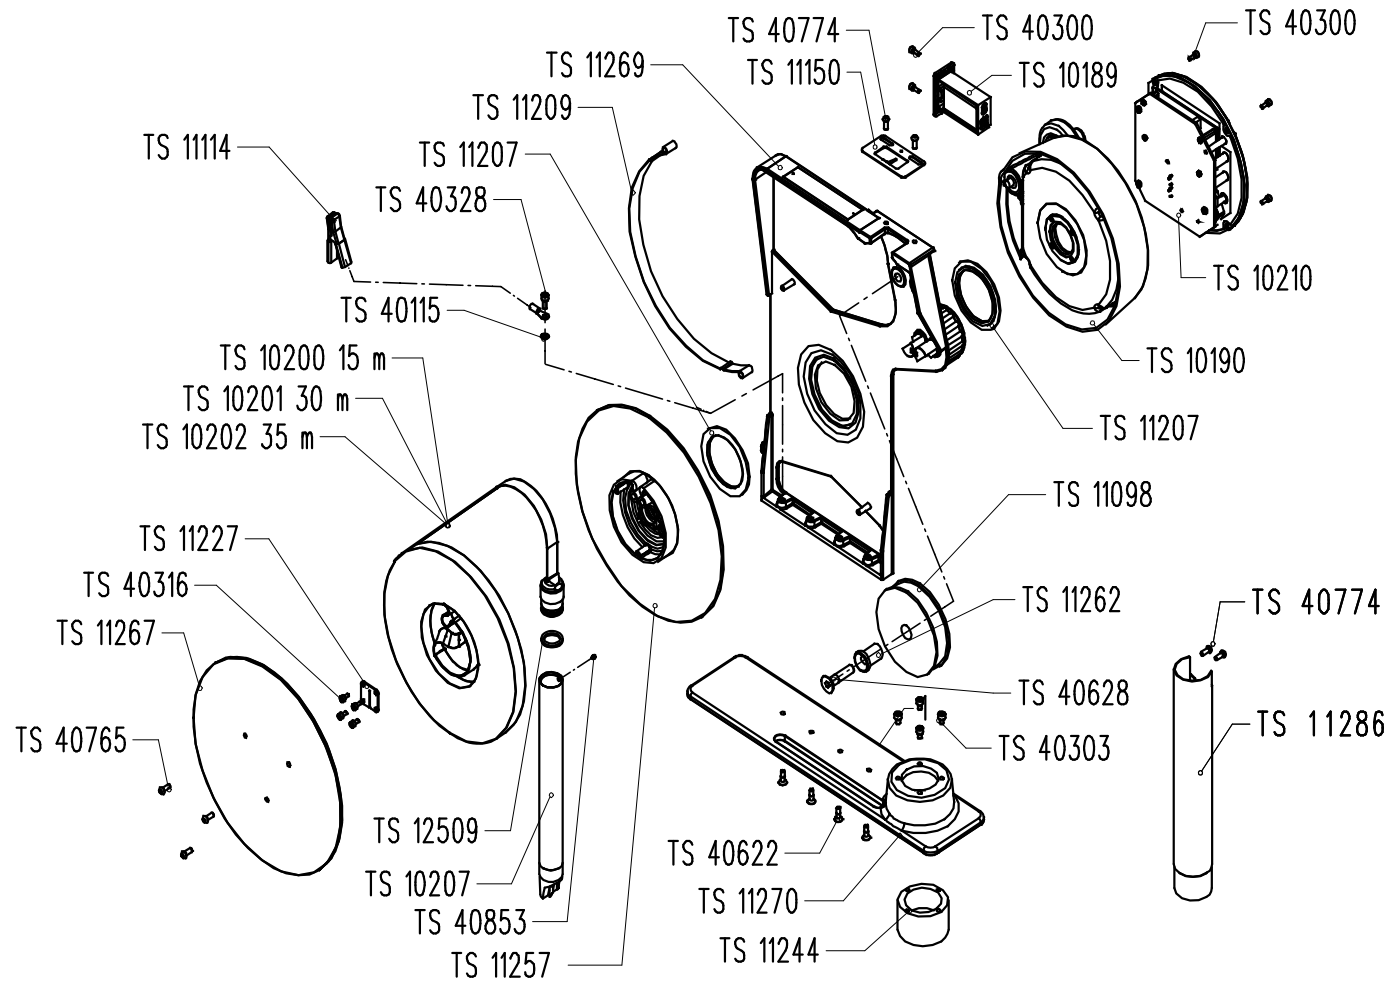

Figure 11-2 : general assembly HERMeTic UTImeter Otex chem version, list of the main spare parts
- Figure 11-2 : general assembly HERMetic UTImeter Otex chem version, list of the main spare parts